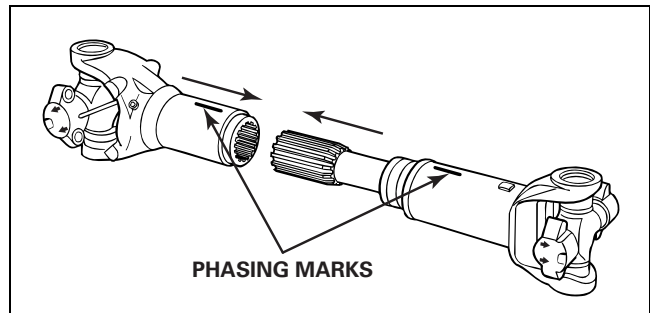

Figure 4.22
6. Align the slip yoke and spline shaft sections with the phasing marks you made on these sections during disassembly. Figure 4.22.
7. Install the spline shaft into the slip yoke until the splines fully engage. Figure 4.22.